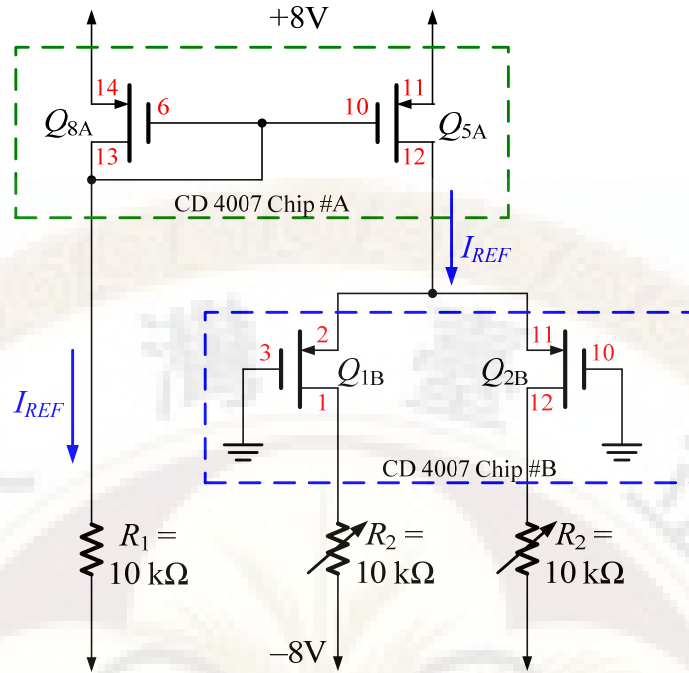

Fig. 4 DC Analysis of the differential pair ( $Q_1$ ,  $Q_2$ )
- In Fig. 4, adjust VR ( $R_2$ ) 10 kΩ and check whether ( $Q_1$ ,  $Q_2$ ) are both able to enter saturation region, that is,  $V_{GD1,2} \geq V_T (-1.8V)$ . If one of them is not so, change the chip of CD4007 #B and recheck again.